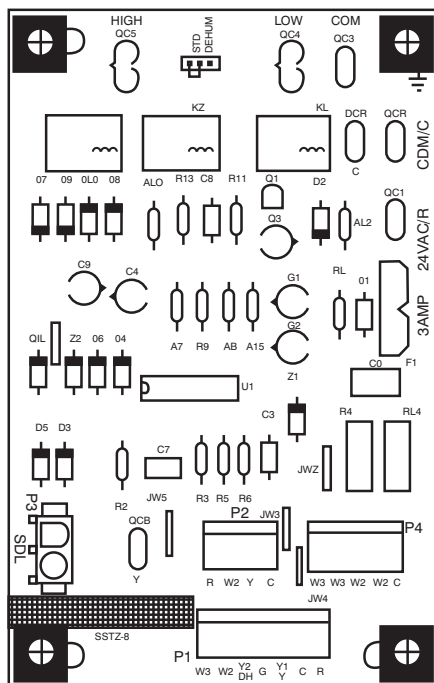

Fig. 13 - Interface Fan Board (IFB)
The cooling speed is marked “LOW” on the interface fan board (IFB) (See Fig. 13) . The factory-shipped settings are noted in Table 4. There are 4 additional speed tap wires available for use in either electric heating or cooling (For color coding on the indoor fan motor leads, see Table 3). The additional 4 speed tap wires are shipped loose with vinyl caps and are located in the control box, near the interface fan board (IFB) (See Fig. 13).
2. Remove the current speed tap wire from the “LOW” terminal on the interface fan board (IFB) (See Fig. 13) and place vinyl cap over the connector on the wire.
- Using Fig. 13, move the two pin DEHUM jumper from the “STD” position to the “DEHUM” position.
- Remove fan speed tap wire from the “LOW” terminal on the interface fan board (IFB) (See Fig. 13).
When the DEHUM feature is not used, the continuous fan speed will be the same as cooling fan speed. When the DEHUM feature is used, the continuous fan will operate on IFB “LOW” speed when the DH control lead is not energized, or IFB “HIGH” speed when the DH lead is energized (see Fig. 13).